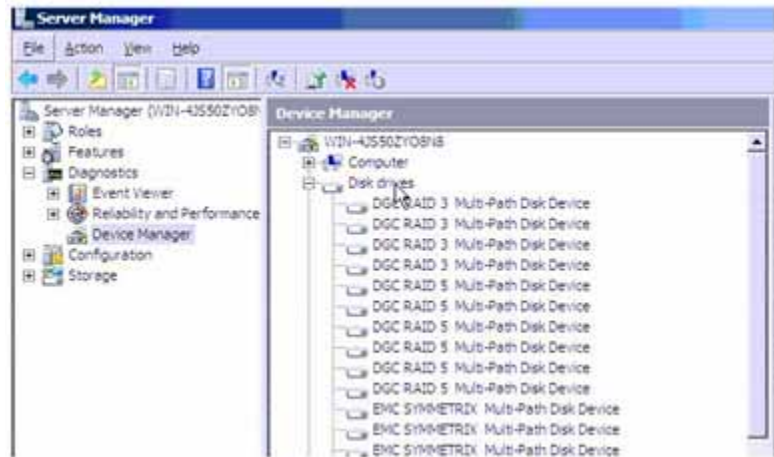

Figure 113 Server Manager window: Disk drives pane
3. Click **Disk Drives** to list all target LUNS attached to the entire system (Figure 113).